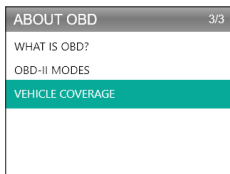

Figure 9.1.2
2. Select ABOUT OBD (See Figure 9.1.2), and press [OK]. Three options will appear, including WHAT IS OBD? (General OBD info, OBDII MODES, VEHICLE COVERAGE, models that support, and more).